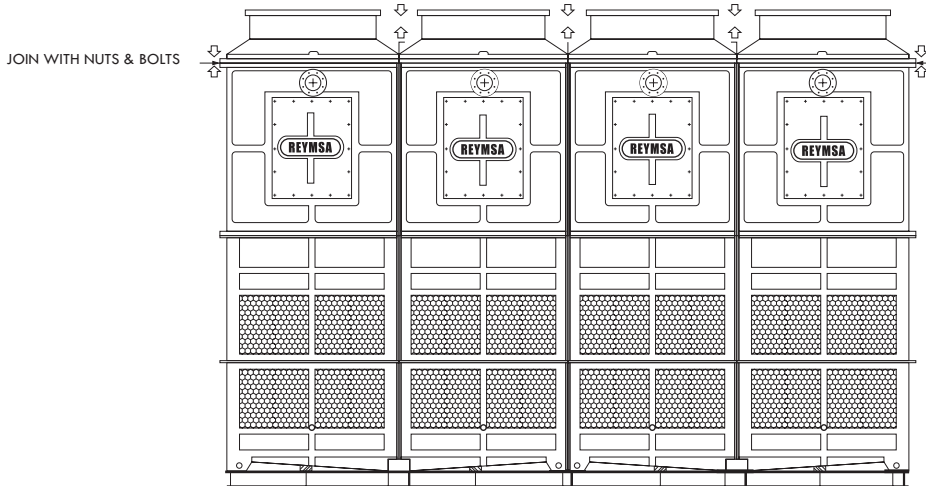

Figure A-31: Tower Cover Section Installation
M. Proceed to place remaining tower cover sections, making sure that the bolt holes are aligned. Bolt together the vertical flanges between each tower cover section using first the galvanized steel bolts and nuts (supplied by REYMSA) to join sections. Then replace the galvanized steel bolts with the stainless steel nut and bolt sets supplied by REYMSA. Proceed to bolt down and secure the horizontal flanges between each tower cover and its corresponding tower body (tower cover 1 to tower body 1, etc) with the stainless steel nut and bolt sets supplied by REYMSA, until all tower cover sections are installed (See Figure A-31).